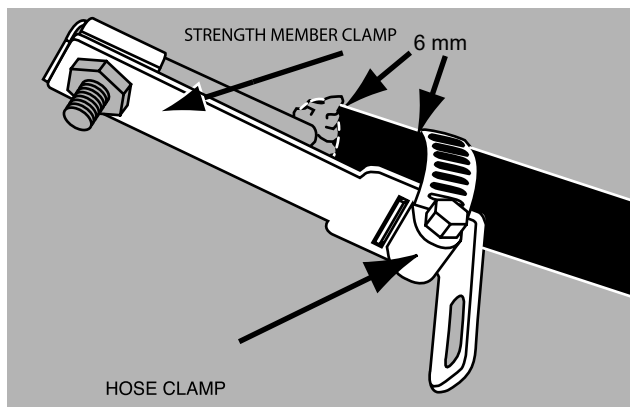

FIGURE 18
18. Attach the hose clamp around both the component and cable and fully tighten. (Figure 18)